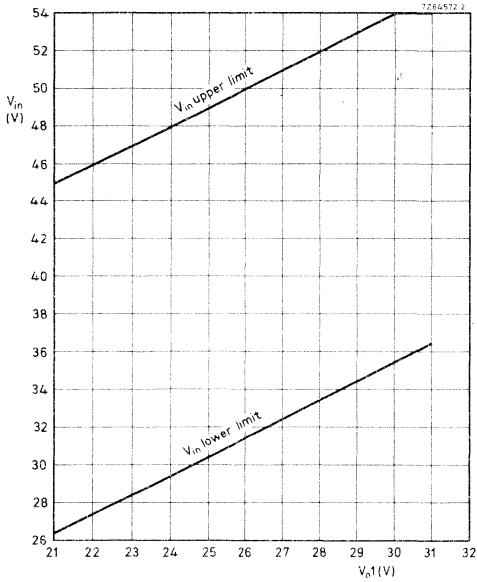

Fig. 1. Range of values for V_{01}
1. The V_{in} range depends on the value of V_{O1} (see Fig. 1).